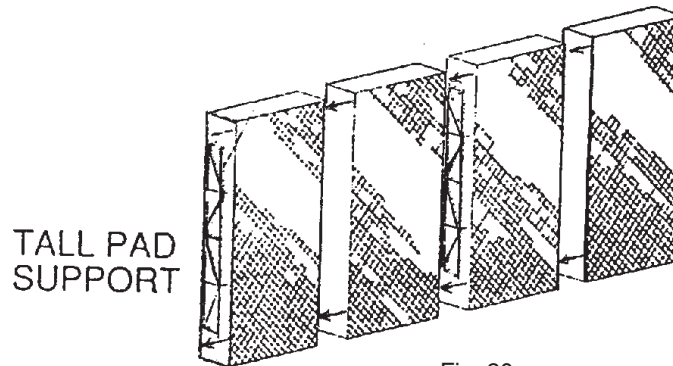

Fig. 20
2. If 60" (1.25 m) or taller one piece or two piece pads are to be used, tall pad supports should be installed. The supports install between every other pad, centered between the top and bottom and the front and back of the pads. Holding the tall support in position, press the pads together until the support sticks into both pads (see Fig. 20). NOTE: The last pad installed may need to be trimmed to fit available space easily. DO NOT force the last pad into a space that is smaller than the pad.